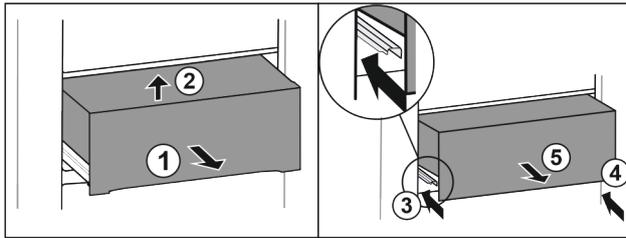

Fig. 30*
- ▶ Pull out the drawer half-way Fig. 30 (1).*
- ▶ Lift at the front Fig. 30 (2).*
- ▶ Insert left rail Fig. 30 (3).*
- ▶ Insert right rail Fig. 30 (4).*
- ▶ Take out the drawer to the front Fig. 30 (5).*